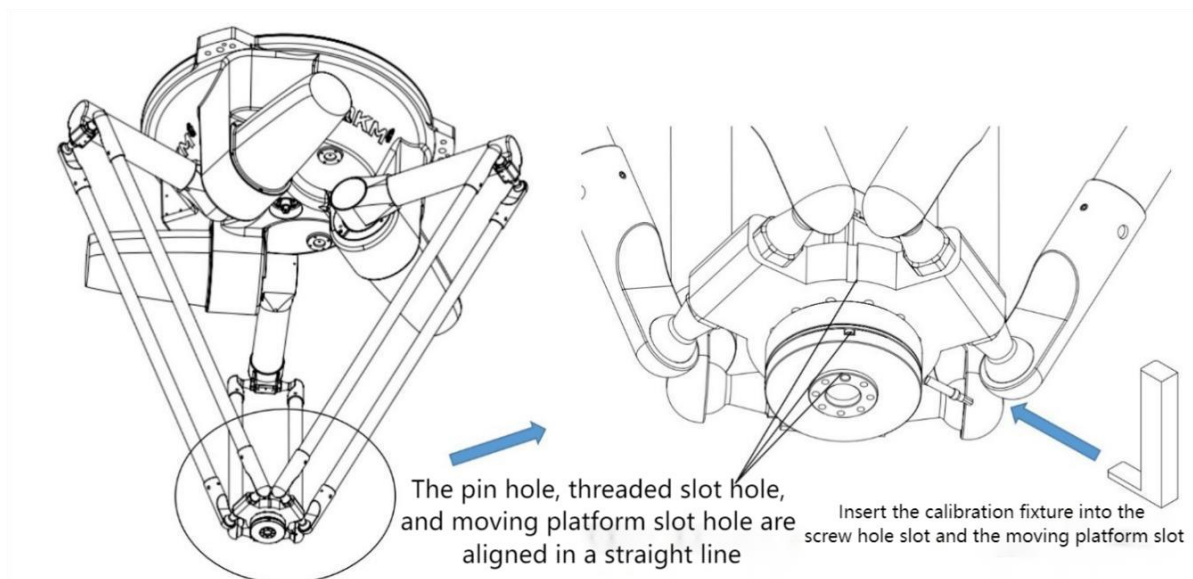

Figure 3-33 J4 calibration attitude
Step 2 Open the ARM software. As shown in Figure 3-33, select the zero point calibration function under the menu bar tool option;
Step 3 Use the four-axis calibration fixture, as shown in the red area of Figure 3-33, and adjust the end flange to the J4 calibration posture: The two step surfaces of the fixture are respectively attached to the flat position of the rotating shaft of the moving platform and the flat position of the base of the moving platform, and the screw holes of the fixture are aligned with the slot of the rotating shaft of the moving platform.